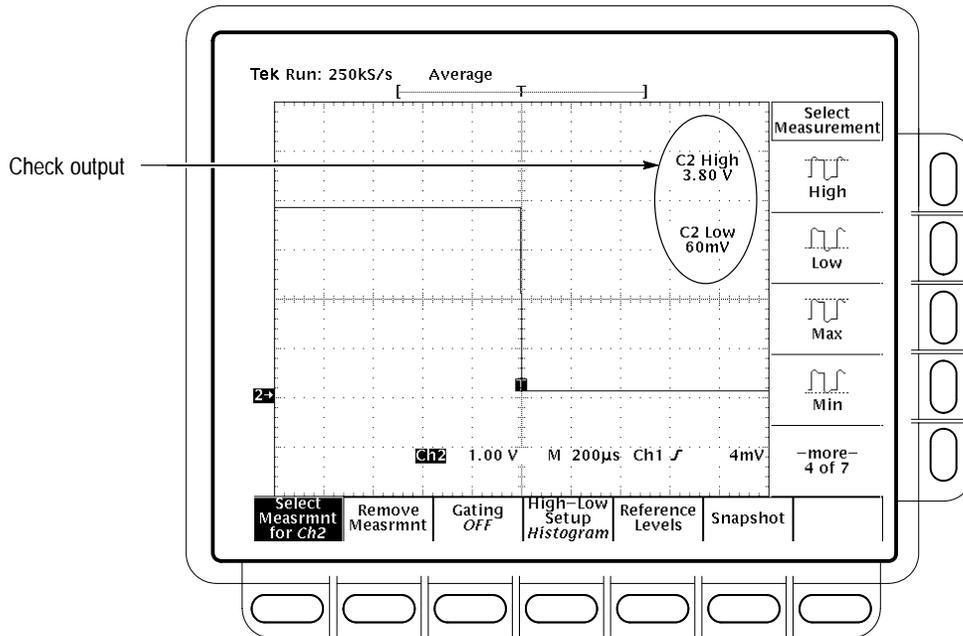

Figure 4-21: Measurement of Main Trigger Out Limits
- d. *Check Delayed Trigger output against limits:* See Figure 4-21.